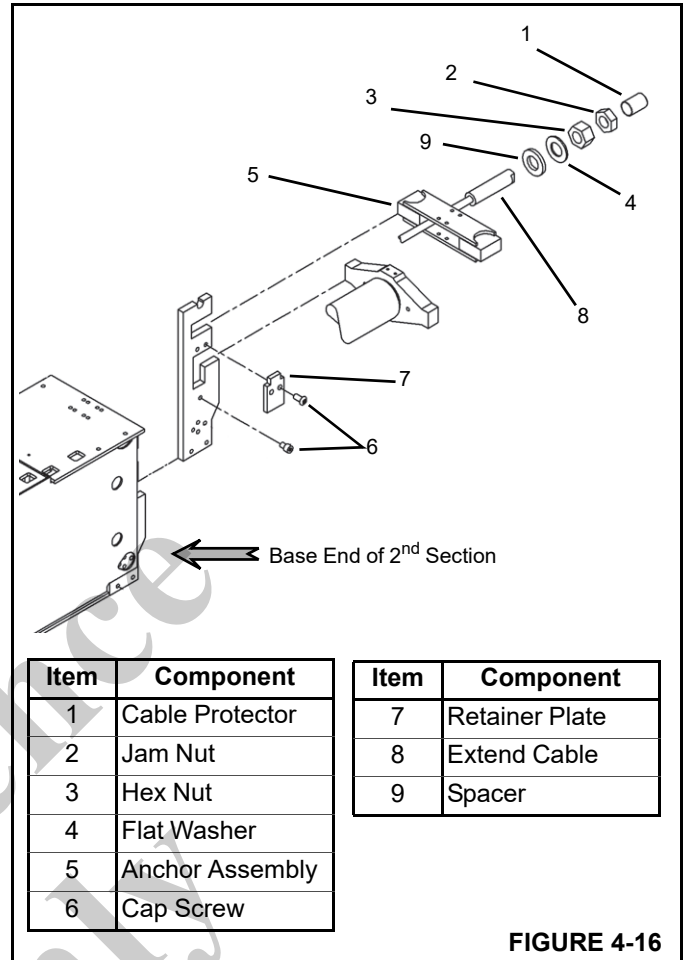

FIGURE 4-16
7. Insert the extend cable anchor assembly into the base end of the 2nd section (Figure 4-16).